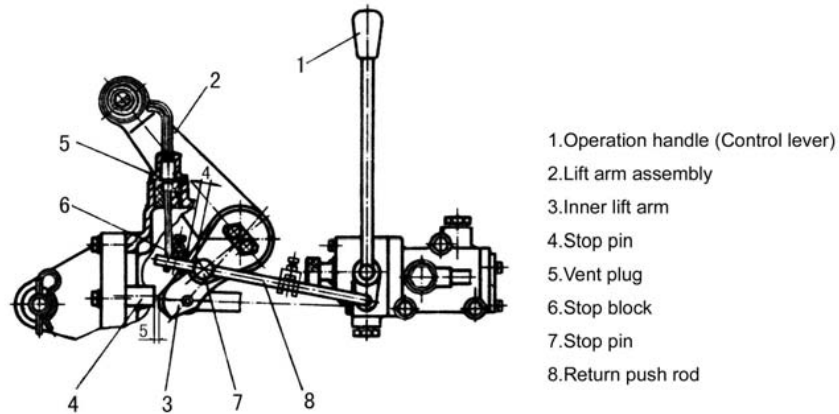

Fig.4-21 Adjustment of lifting position
#### ① Adjustment of the utmost lifting position (Fig.4-21)
Set the control lever (1) at the neutral position which is illustrated in Fig.4-21. Rotate the lift arm assembly (2) upward, until the clearance between the end of inner lift arm (3) and stop pin (4) is not less than 5mm (insert a steel pad through the hole vent plug (5), control this clearance by the pad thickness). Adjust the clearance between stop block (6) and stop pin (7) to be 9-10mm, then fix the stop block on the return push rod (8) with bolt and nut.